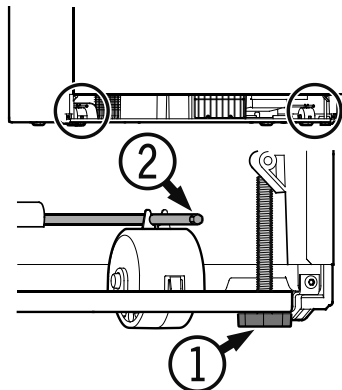

Figure 18
## Leveling the Appliance - Figure 18
To prevent the appliance from tipping forward the leveling feet (1) (Figure 18) must have contact with the floor.